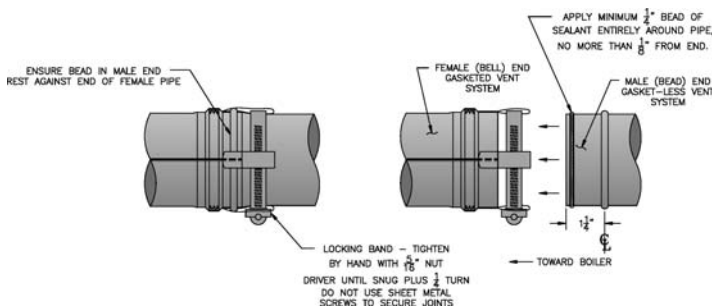

Figure 10C: Burnham Gasket-Less Male and Gasketed Female Vent Joint Detail
1. Procedure for joining the male end of Burnham Gasket-Less Vent with the female end of Burnham Gasketed Vent. See Figure 10C.